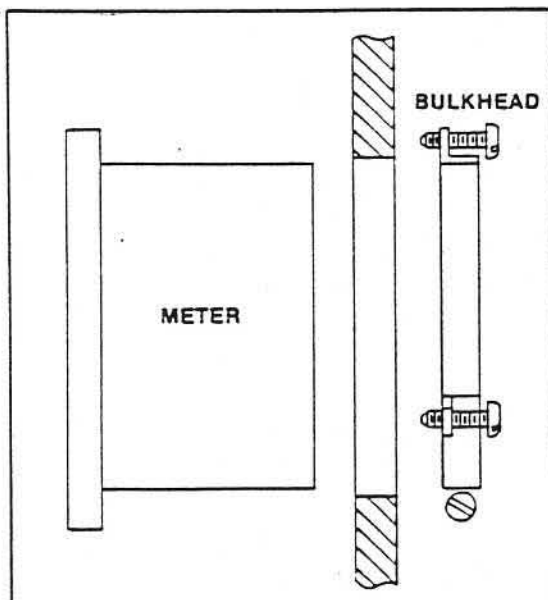

Figure 3.8
4. Loosen the clamp ring. Install on the case from the rear as shown in Figure 3.8. With the indicator flange against the bulkhead, position the clamp against rear of the bulkhead and tighten securely around the indicator. Turn the two bracket screws clockwise until the indicator flange is seated snugly against the bulkhead. Do not over-tighten. Over tightening will cause the clamp to slip.